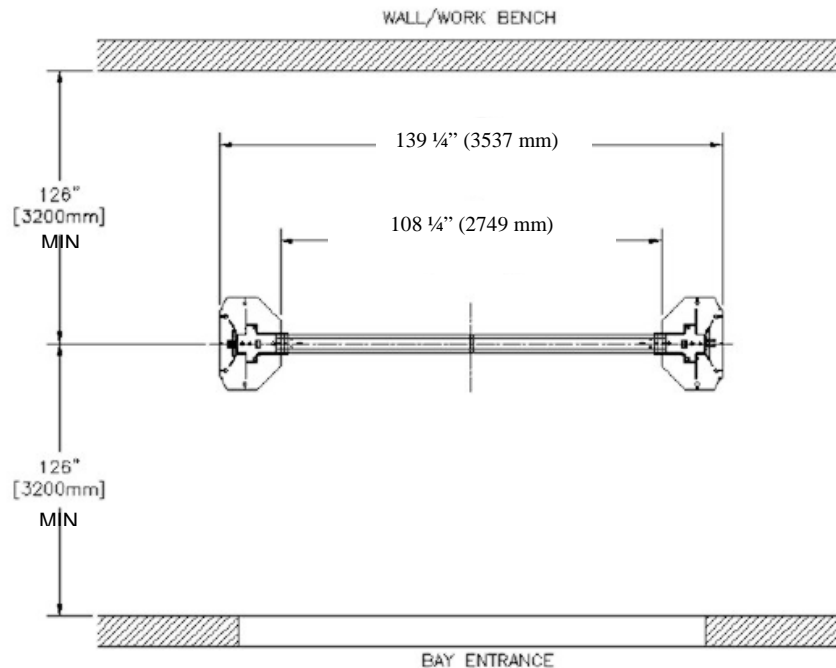

Figure 4. Bay Layout
3. Locate the power side and slave side towers and position them as shown in **Figure 4**. Double check all the dimensions in the layout.
5. Check the towers to make sure they are located, and positioned in the correct location. **Figure 4**.